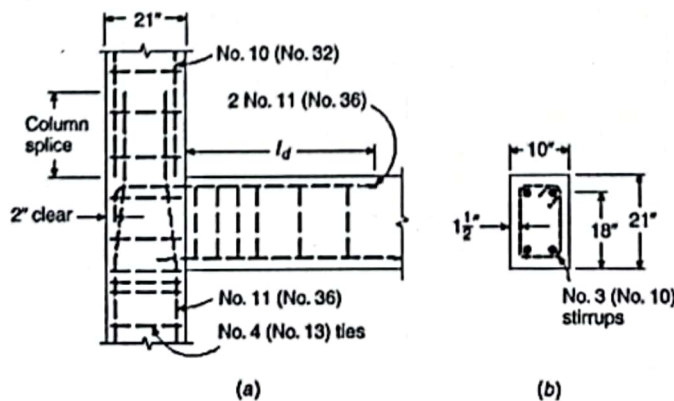

Fig. 4
| b) A beam-column joint in a continuous building frame is shown in Fig. 4. The negative steel required at the end of the beam is $2.90 \text{ in}^2$ , two No. 11 bars are used, providing $A_s = 3.12 \text{ in}^2$ . The beam design include No. 3 stirrups spaced four at 3 in., followed by a constant 5 in. spacing in the region of the support with 1.5 in. clear cover. Given, $f'_c=4$ ksi and $f_y=60$ ksi. Find the minimum distance $l_d$ at which negative bars can be cut off, based on development of required steel area at the face of the column using both simplified equation and basic equation. | (20) | 3 |